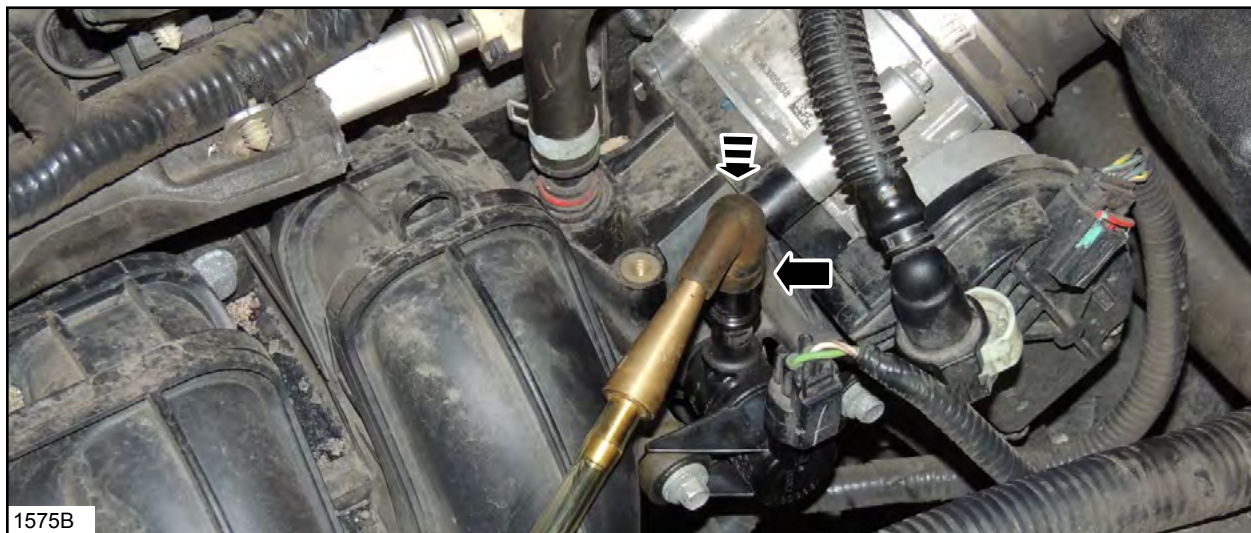

FIGURE 4
3. Using suitable adapters, connect the VACUTEC® Smoke Machine Fuel Evaporative Emission System Tester or equivalent to the port on the CPV. See Figure 4.